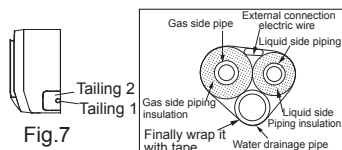

Fig.7
1. When routing the piping and wiring from the left or right side of indoor unit, cut off the tailings from the chassis in necessary(Show in Fig.7)